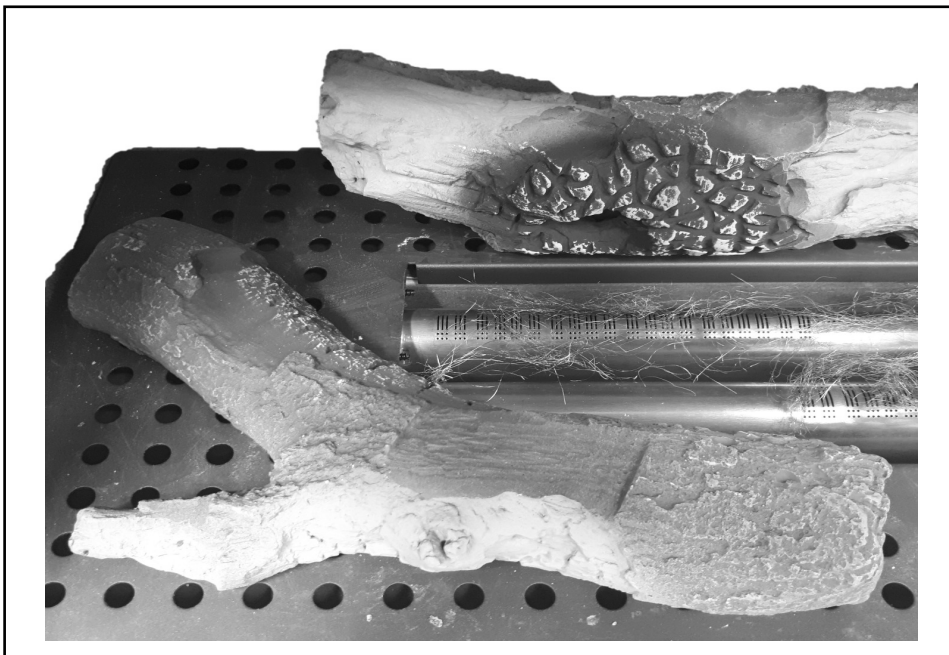

Fig. 4
4. Place Log '4' in position as shown in fig.4. Log 4 has a flat side to rest on the metal tray. The log does position over the front burner front LHS blank end, but only where there are no burner port holes below the log.